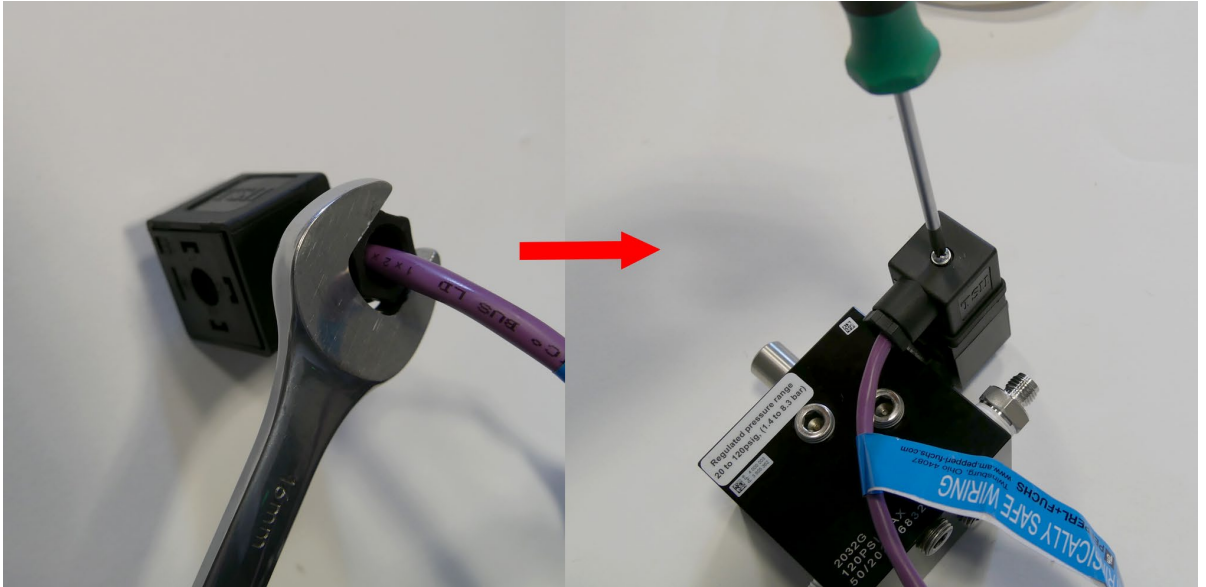

Figure 138. Manifold connection block closing.
4. Close the manifold connection block and twist the plastic nut with 16mm wrench, then screw the block into the manifold using cross screw (Figure 138).
7. Connect the external 3x1mm2 power cable (5) (cable not included in the delivery, Figure 147) into purging controller (3) through the M16 gland as shown in **Figure 138**. Screw the PE nut with 7mm socket wrench.